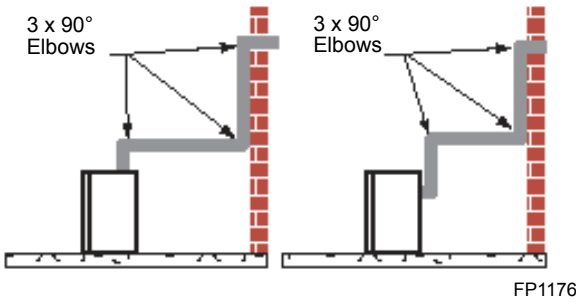
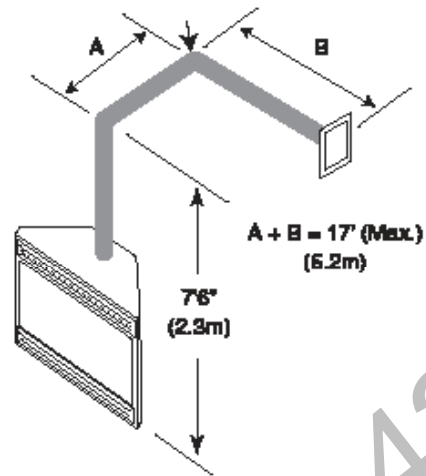

Figure 34 – Maximum three (3) 90° elbows per installation
Figure 36 – Horizontal Run Reduction
- The maximum number of 90° elbows per side wall installation is three (3). Figure 34
- If a 90° elbow is used in the horizontal vent run (level height maintained) the horizontal vent length is reduced by 36" (914 mm). Figures 36 & 37. This does not apply if the 90° elbows are used to increase or redirect a vertical rise. Figure 34
In Figures 36 & 37, dimension A plus B must not be greater than 17' (5.2 m)
1. Establish vent hole through the wall. *Page 22, Figure 36*